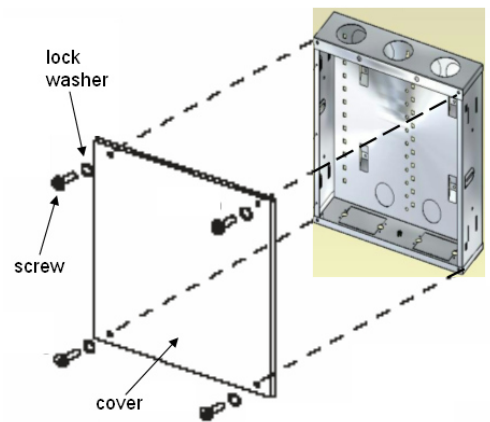

Figure 4
**NOTE: Screws must be installed with lock washers to ensure proper cover grounding. The screws and lock washers must be installed to ensure the cover is electrically grounded to the enclosure. (See Figure 4)**